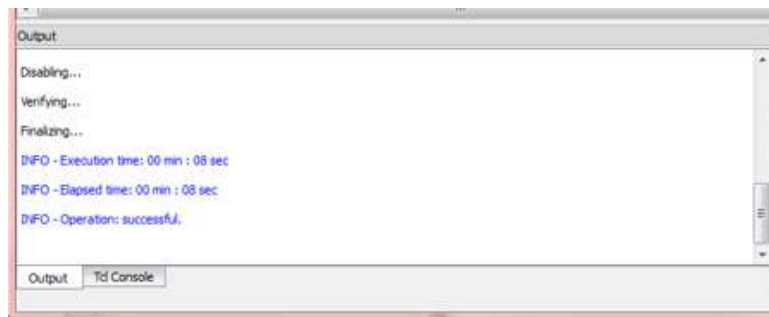

Figure A.9. Output Console
6. After successful programming, the Output console displays the results as shown in Figure A.9.